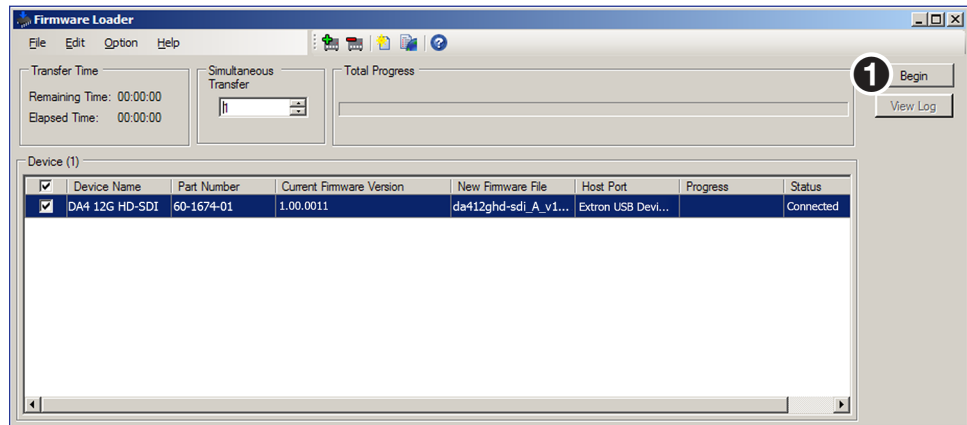

Figure 23. Firmware Loader Screen with a DA4 HD 4K Plus Added
- c. Select **Remove All Devices** (③) from the **Edit** menu to remove **all** devices.
13. Click **Begin** (see figure 23, **1** on the previous page).